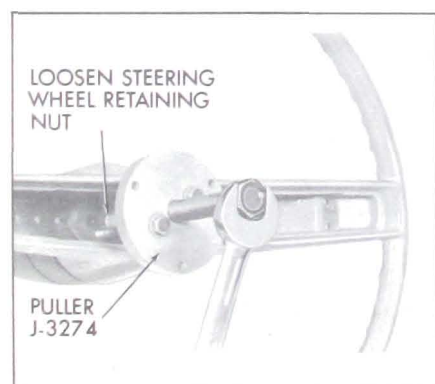

Figure 8-8—Removing Steering Wheel
4. Attach Puller J-3274 to wheel hub and pull wheel up to nut. See Figure 8-8. If wheel hub is very tight on shaft, apply a moderate strain with puller then tap end of puller screw to break hub loose from shaft without distorting wheel hub. Remove puller, nut, and steering wheel.